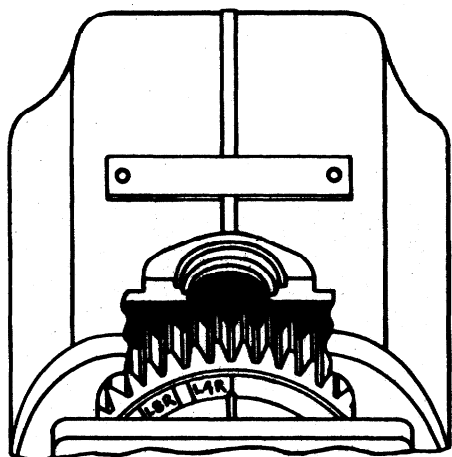

Figure 2. Alignment of Timing Marks on Distributor Gear – 4 Cylinder, Right Hand Rotation
- a. "4" and "8" Cylinder, all types – The timing rib on the distributor block MUST align within 1/2 tooth either side of the "L" or "R" mark on the gear, depending on magneto rotation. (See figure 2)